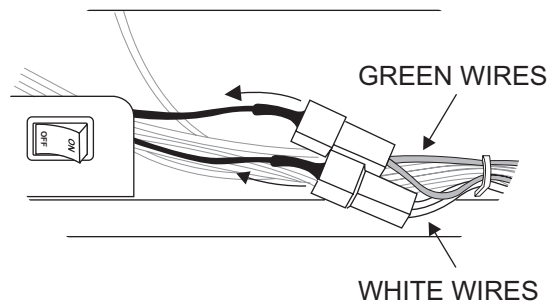

Figure 19
"IP" Valve - Locate the two 5-1/2 inch long black wires connected to the ON/OFF switch. Disconnect these two black wires at the green and white wire connections. Attach the flag terminals (the low voltage wire assembly found in the Instruction Packet) to the green and white wire connections. **See Figures 19 and 20.**
- b. For IP valve connections, locate the green and white wires from the control module, then connect the switch wire flag terminals to the green and white wire terminals. **See Figures 19 and 20.**